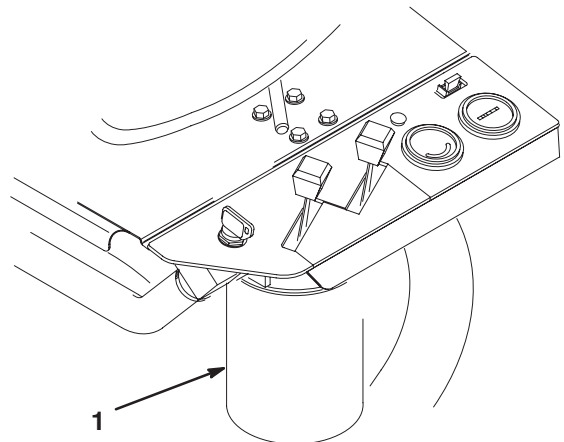

Figure 40
2. Clean the area around the filter mounting area (Fig. 40). Place a drain pan under the filter and remove the filter.